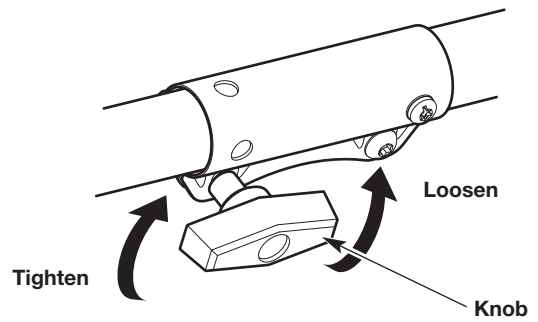

Fig. 7
3. Turn the knob counterclockwise to loosen the coupler (Fig. 7).
6. Turn the knob clockwise to tighten the coupler (Fig. 7).
2. Turn the knob counterclockwise to loosen the coupler (Fig. 7).